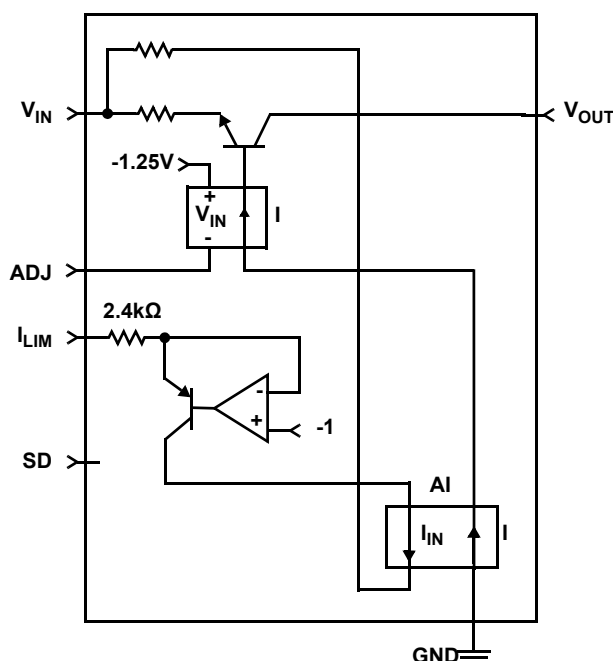

Figure 1. ISL72991RH Functional Diagram
The radiation hardened ISL72991RH is a low dropout adjustable negative linear regulator with an output voltage range of -2.25V to -26V. The device features a 1A output current capability, an adjustable current limit pin (ILIM), and a shutdown pin (SD) for easy on/off control. The ISL72991RH incorporates unique circuitry that enables precision performance across the -55°C to +125°C temperature range and post-irradiation. Datasheet specifications across the full temperature range include an internal reference voltage of -1.25V +40mV/-50mV (maximum), line regulation of $\pm 25\text{mV}$ (maximum), and load regulation of $\pm 15\text{mV}$ (maximum). The reference voltage is the ADJ pin to GND voltage. Figure 1 shows a functional diagram.